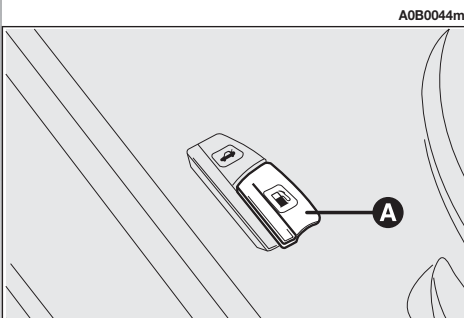
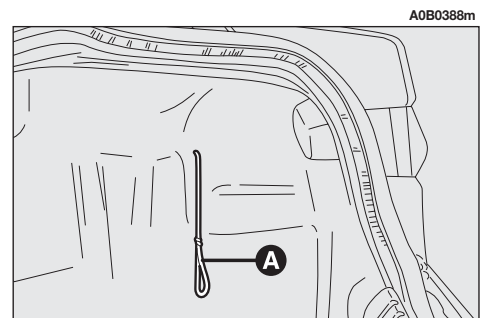

fig. 170
fig. 172
**FUEL CAP (fig. 170)**
If the lever (A-fig. 170) fails to work, it is still possible to open the flap by pulling the cord (A-fig. 172) on the right-hand side of the luggage compartment.